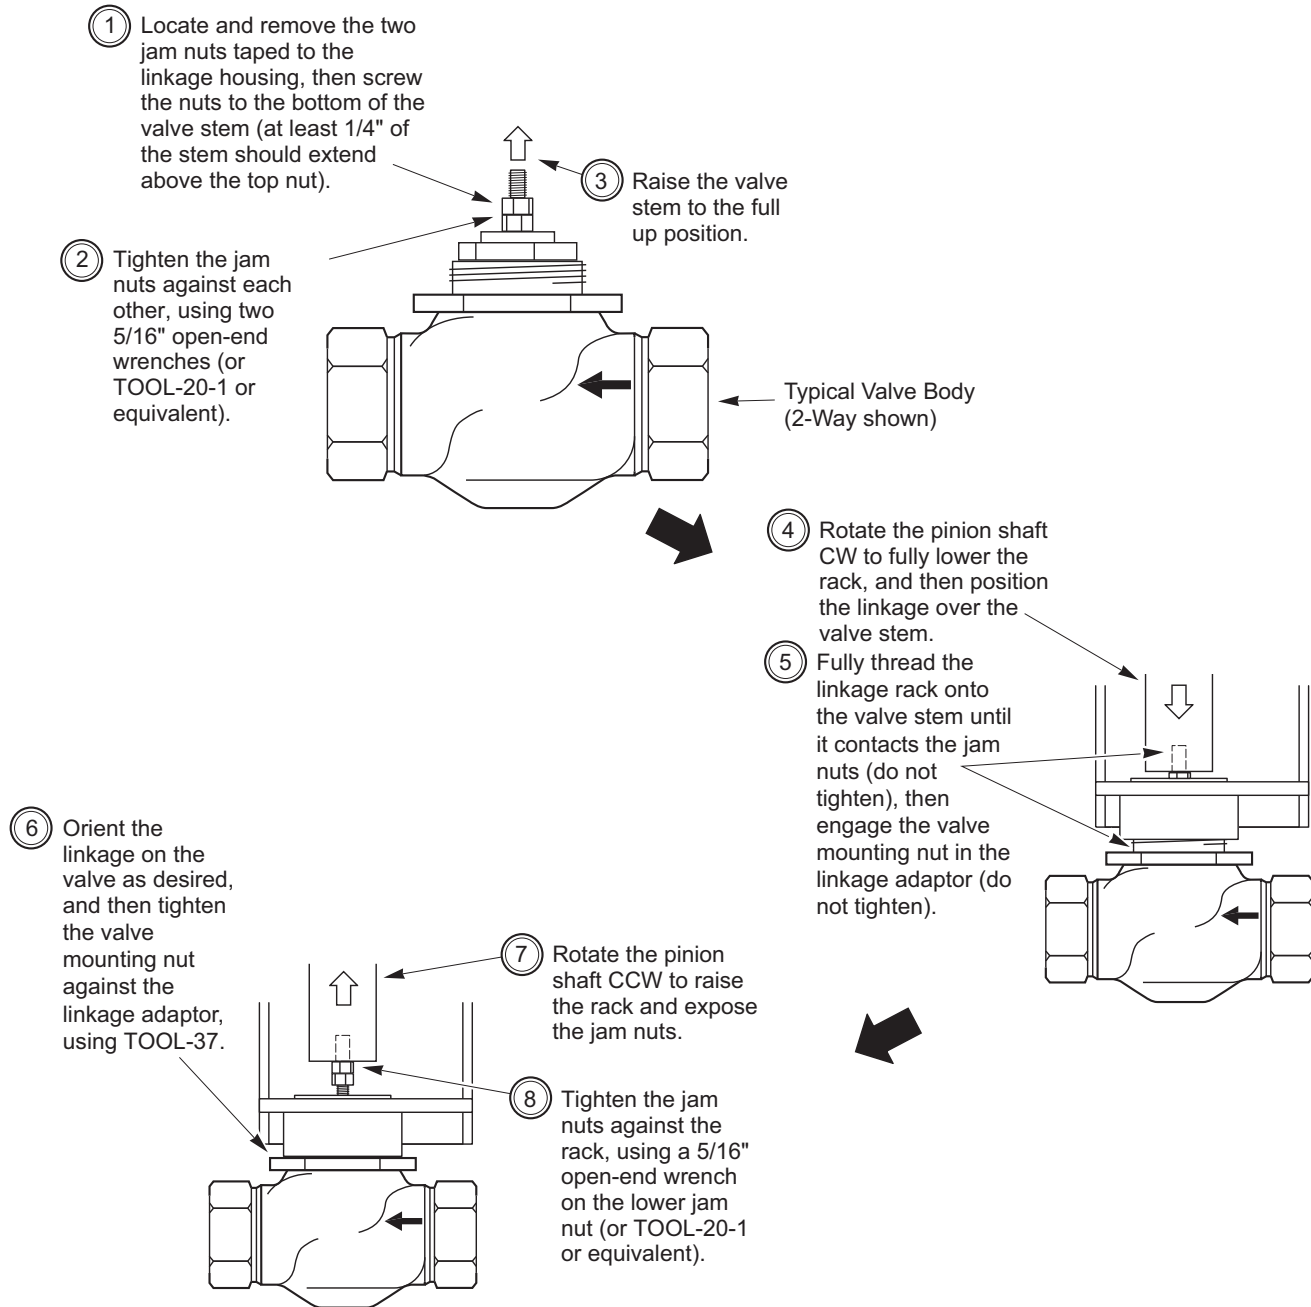

Figure-2 Assembling Linkage to Valve.
2. Assemble the linkage to the valve, according to Figure-2.